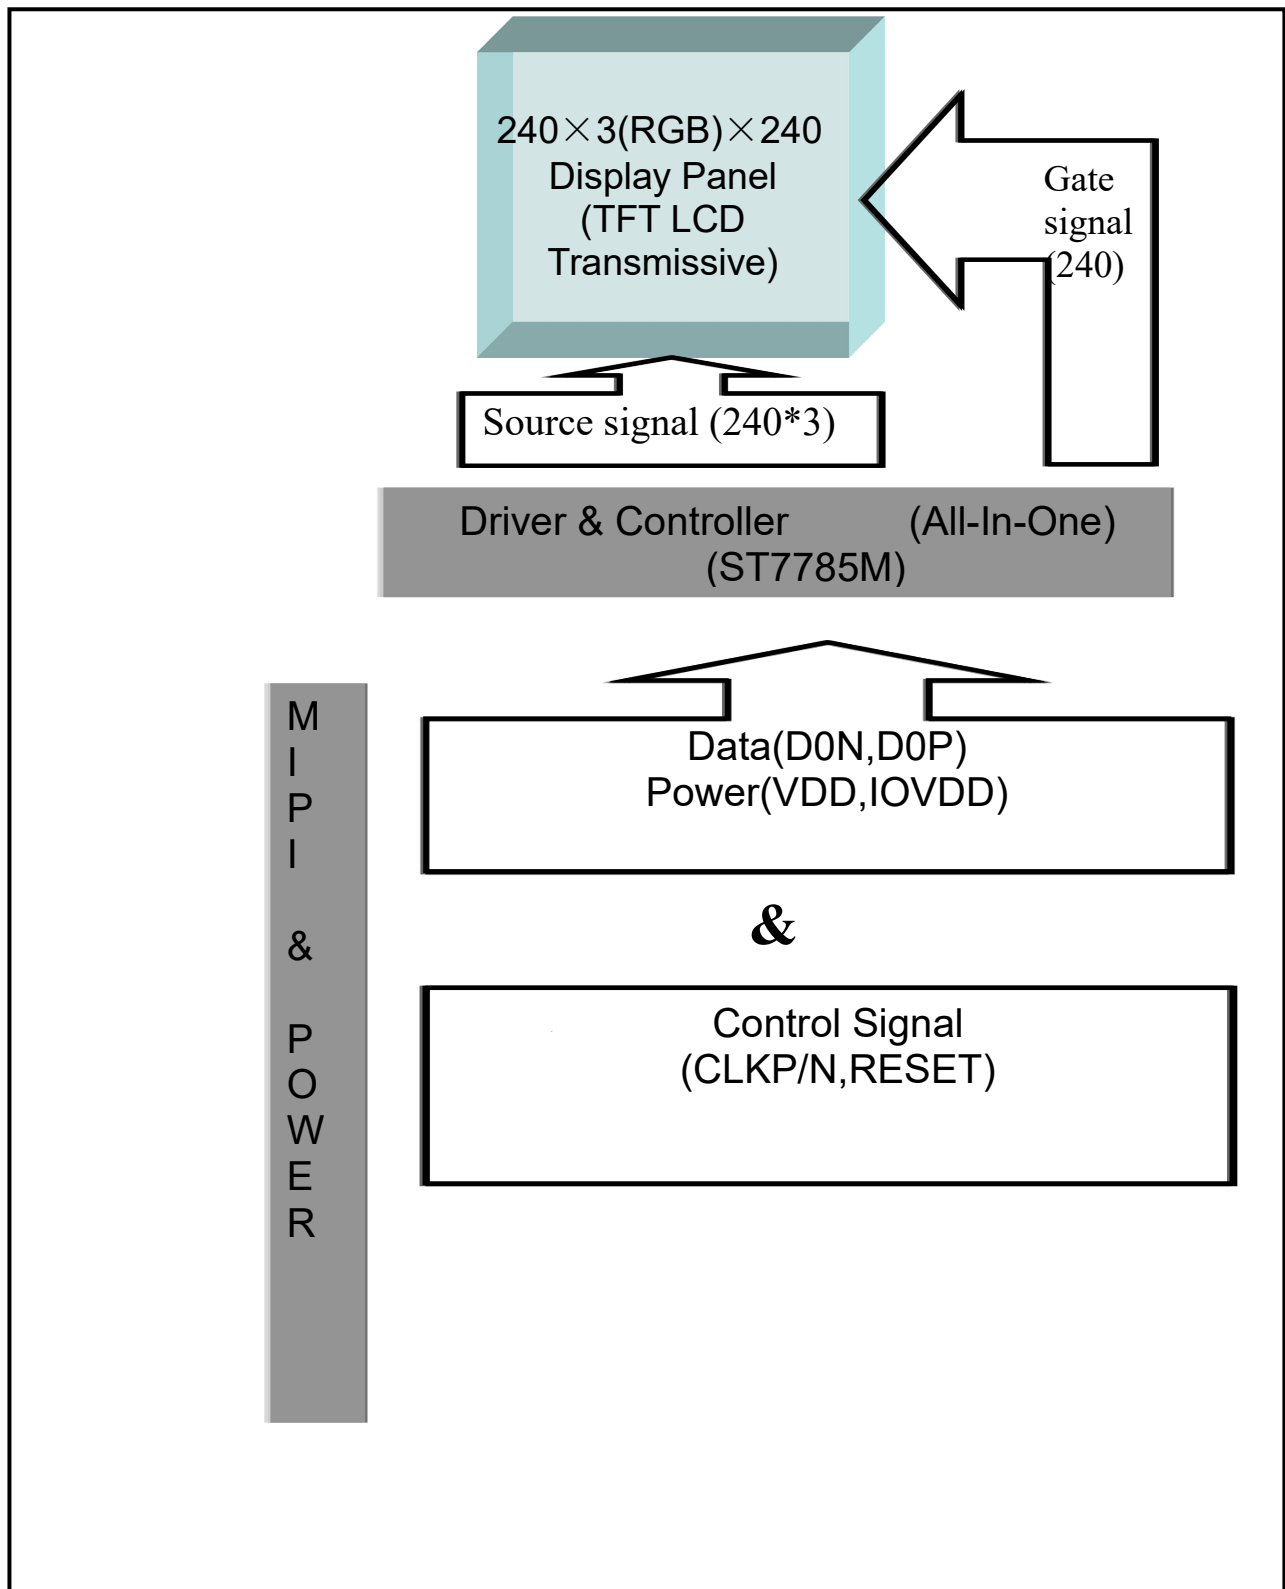

**FIG. 3 The definition of Viewing Angle**
4. Viewing angle is the angle at which the contrast ratio is greater than 10. The angles are determined for the horizontal or x axis and the vertical or y axis with respect to the z axis which is normal to the LCD surface. For more information see FIG 3.